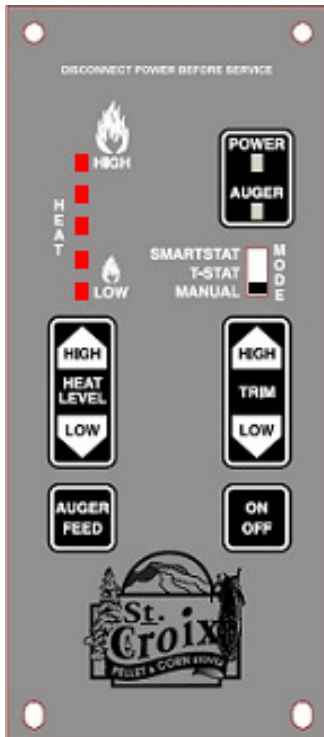

Figure 19
- 3 - **Program 3.** The Cycle Time is 11.5 seconds. **THIS PROGRAM IS THE DEFAULT PROGRAM FOR USE WITH THE ASHBY-P.** This program is for use with **Pellets, Cherry Pits and a 50/50 Percent Mixture of Pellets and Corn (See fig. 19 on page 33).** **(DO NOT USE THIS PROGRAM WITH THE ASHBY-MF).**
- 4 - **Program 4.** The Cycle Time is 10 seconds. ***This Program offers Self-Ignition and is only for units that have the Versa Grate system & Igniter installed.*** This program is for use with **Cherry Pits. (See fig. 19 on page 33).** **(DO NOT USE THIS PROGRAM WITH THE ASHBY-MF).**
To change the Program the Insert must be in the OFF position, the unit must be completely cooled down so the Proof of Fire Switch is Open and the Thermostat slide switch must be in the Manual mode. (See figure 19)
2. Push the On/Off button on the control board. (See figure 19 on page 34)